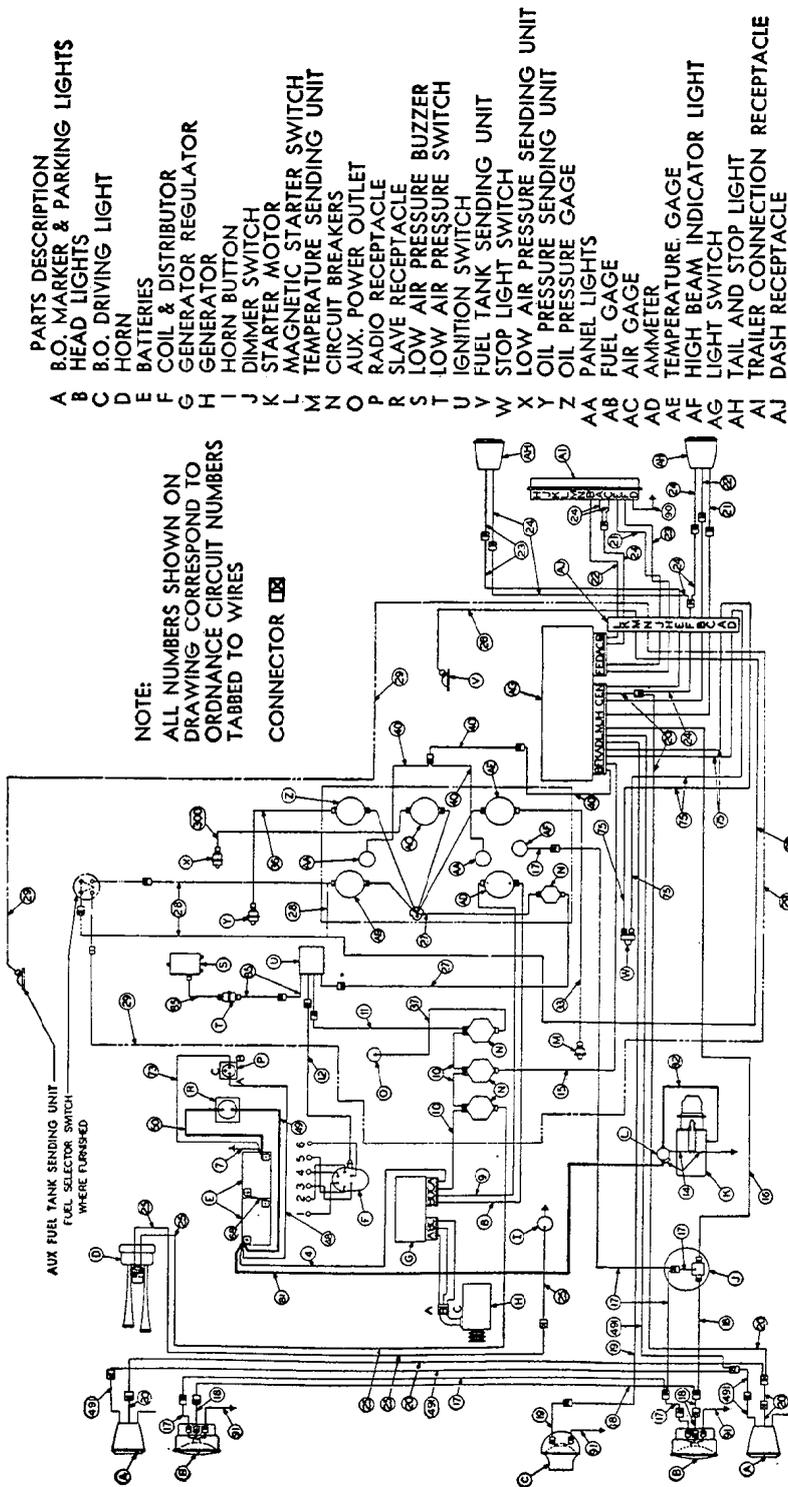
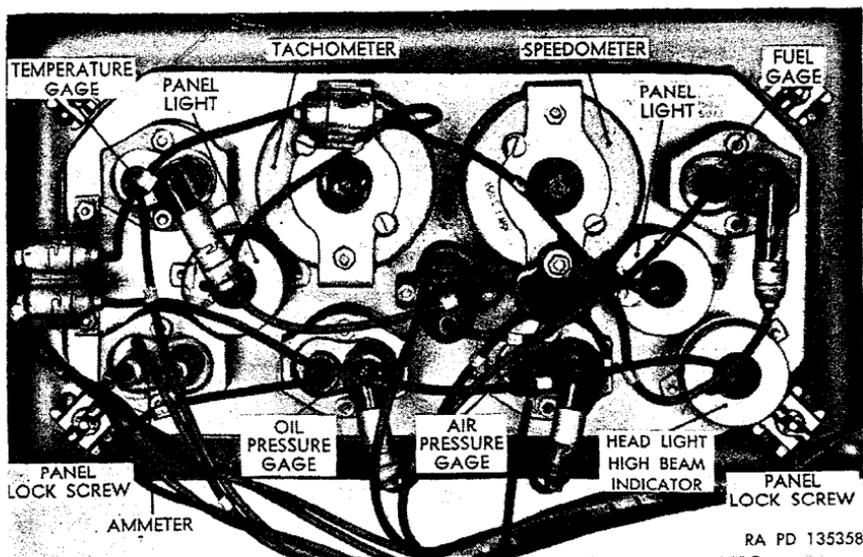
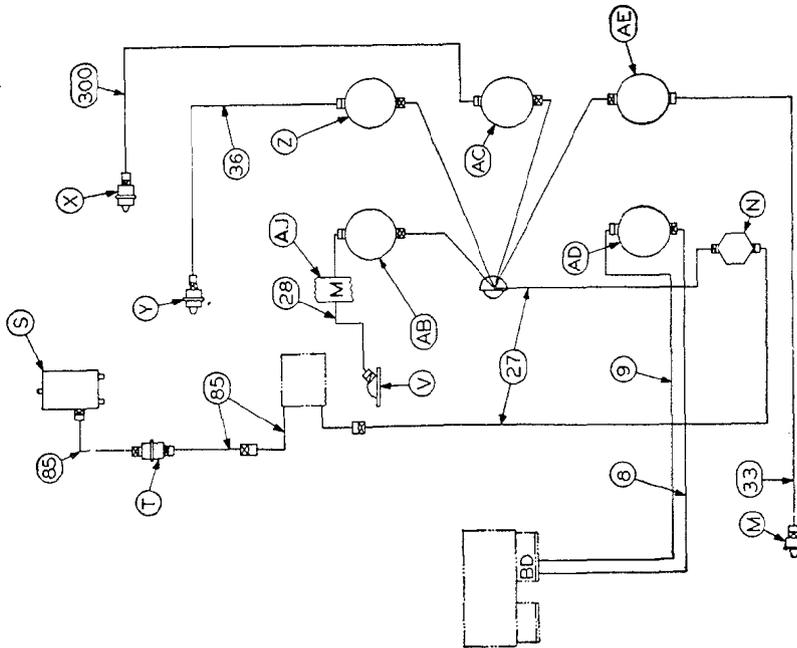

Figure 188. Wiring diagram.
Figure 189. View of back side of instrument cluster.
Figure 190. Diagram of gage and sending unit electrical circuits.
a. General. The electrical system (fig. 188) for the vehicles covered by this manual is a 24-volt system which is totally enclosed and waterproof. Detailed descriptions and organizational maintenance instructions for the components of the complete electrical system are covered in the following paragraphs:
b. Circuits. Each cable for each circuit is tagged at both ends with a number corresponding to one of the circuit numbers shown in figure 188.
- (1) *Wiring.* All cables are covered with rubber insulation, and some cables in engine compartment are also shielded with tinned-copper braid over loom to prevent electrical interference when using radio equipment (par. 195). Cable ends are always soldered, using rosin flux solder (never *acid* flux), to their connecting plug, socket, or terminal. Two types of cable connectors are used on these vehicles. One is a plug-
- (2) *Harnesses.* When a group of cables lead from one general location on these vehicles to another, the cables are bound together to form a harness. Three main harnesses are used on these vehicles. One harness extends from the generator regulator to the circuit breakers, ammeter, and batteries (circuits 4, 8, 9, and 10, fig. 188). Another harness extends from the light switch to the instrument cluster, circuit breaker, and all lights (circuits 15, 16, 19, 20, 21, 22, 23, 24, 40, 75, and 491, fig. 188). The remaining harness extends from the light switch to the trailer coupling receptacle (circuits 21, 22, 23, and 24, fig. 188).
a. Instrument Cluster. The instrument cluster (fig. 189), which is secured to the instrument panel in the cab by four quick-disconnect panel lock screws, consists of the instrument mounting plate with the instruments, gages, and lights in (1) through (9) below attached.
- (1) Air pressure gage
- (2) Ammeter
- (3) Fuel gage
- (4) Headlight high beam indicator light
- (5) Oil pressure gage
- (6) Panel lights
- (7) Speedometer
- (8) Tachometer
- (9) Temperature gage
b. Gages. The speedometer (fig. 189) and tachometer are mechanically operated units which are connected by flexible shaft assemblies to their sending units (*c* below). All other gages in the instrument cluster are electrically operated and are connected by electrical cables to their sending units (*c* below). Circuits to all gages are fed through the ignition switch (fig. 190), which causes gages to be activated only
when the ignition switch is in the ON position. Figure 190 illustrates gage wiring circuits.
- (1) The air pressure gage sending unit, which is connected in the air-reservoir-to-air-governor line, is mounted behind the instrument panel on the back of the cab cowl. It is a rheostat-type resistance unit which automatically varies the resistance in the gage circuit (circuit No. 300, fig. 190) according to variations in the pressure in the compressed air system.
- (2) The fuel gage sending unit (fig. 133), mounted on the top of the fuel tank, is a rheostat-type resistance unit which automatically varies the resistance in the gage circuit (circuit No. 28, fig. 190) to correspond to movement of a float inside the fuel tank.
- (3) The oil pressure gage sending unit (fig. 139), which is mounted on the lower right side of the engine crankcase, is a rheostat-type resistance unit. It automatically varies the resistance in the gage circuit (circuit No. 36, fig. 190) according to variations in the pressure in the engine lubrication system.
- (6) The temperature gage sending unit (E, fig. 122), which is mounted on top of the rear water outlet header, is a rheostat-type resistance unit. It automatically varies the resistance in the gage circuit (circuit No. 33, fig. 190) according to variations in the temperature of the engine coolant.
- (7) The low air pressure sending unit, which is connected in the air-reservoir-to-air-governor line, is mounted behind the instrument panel on the back of the cab cowl. The unit contains a spring-loaded switch which remains closed, completing the circuit to the low air pressure warning buzzer, whenever the pressure in the compressed air system is less than 65 psi. When the pressure in the system exceeds 65 psi, the switch inside the sending unit opens, causing the circuit to the low air pressure warning buzzer to be incomplete.
e. Panel Lights. The two panel lights (fig. 189) illuminate all the gages in the instrument cluster. These lights are controlled by the light switch (par. 49).
f. Headlight High Beam Indicator Light. The headlight high beam indicator light (fig. 189) is connected in the headlight high beam circuit (circuit No. 17, fig. 188), causing it to light only when the high beam circuit is energized by the dimmer switch (J, fig. 188).
g. Air Pressure Warning Buzzer. The low air pressure warning buzzer is mounted on the back side of the instrument panel. The circuit to the buzzer (circuit No. 85, fig. 188) is completed whenever the switch inside the low air pressure sending unit (*c*(7) above) is closed and the ignition switch is ON.
i. Circuit Breakers. Four automatic-reset-type circuit breakers (J, fig. 122), mounted on the upper left end of the cab cowl, protect the various electrical circuits (fig. 188).
a. Removal (fig. 189).
b. *Installation* (fig. 189).
- (1) *Connect tachometer and speedometer flexible shafts.* Position instrument cluster at opening in instrument panel, insert end of tachometer flexible shaft in tachometer, and tighten connector nut. Insert end of speedometer flexible shaft in speedometer, and tighten connector nut.
- (2) *Connect gage and light cables.* Connect bayonet-type connectors on gage and light cables to gages and lights at back of instrument cluster. Refer to figure 190 for matching of gages with circuit number tags on cables.
- (3) *Install panel lock screws.* Position instrument cluster on front of instrument panel, and install four panel lock screws, one at each corner of instrument mounting plate.